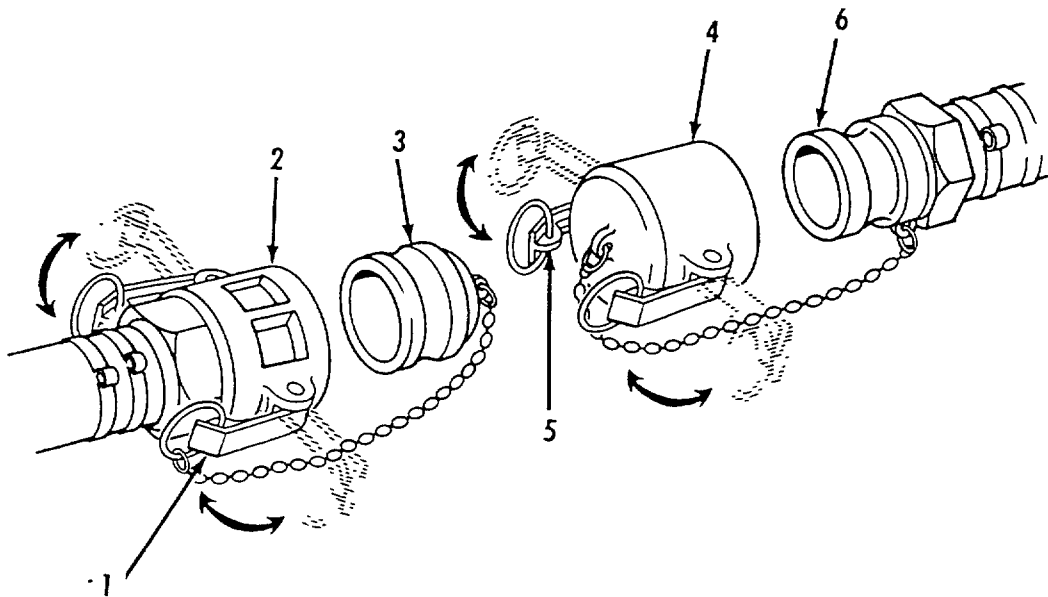

Figure 2-15. Quick Disconnect Couplings.
h. Quick Disconnect Couplings. Refer to figure 2-15.